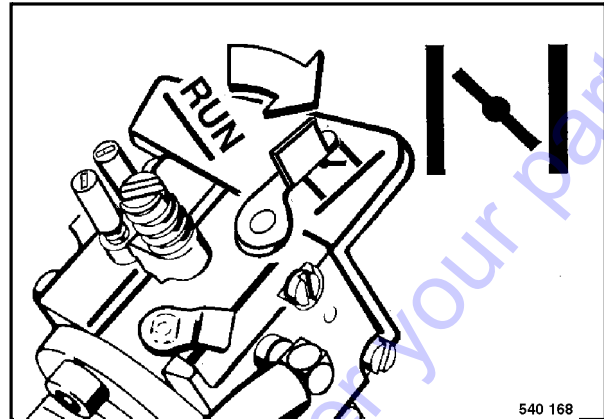

Fig. 3
- Close the choke (Fig. 3), position START or symbol Choke.